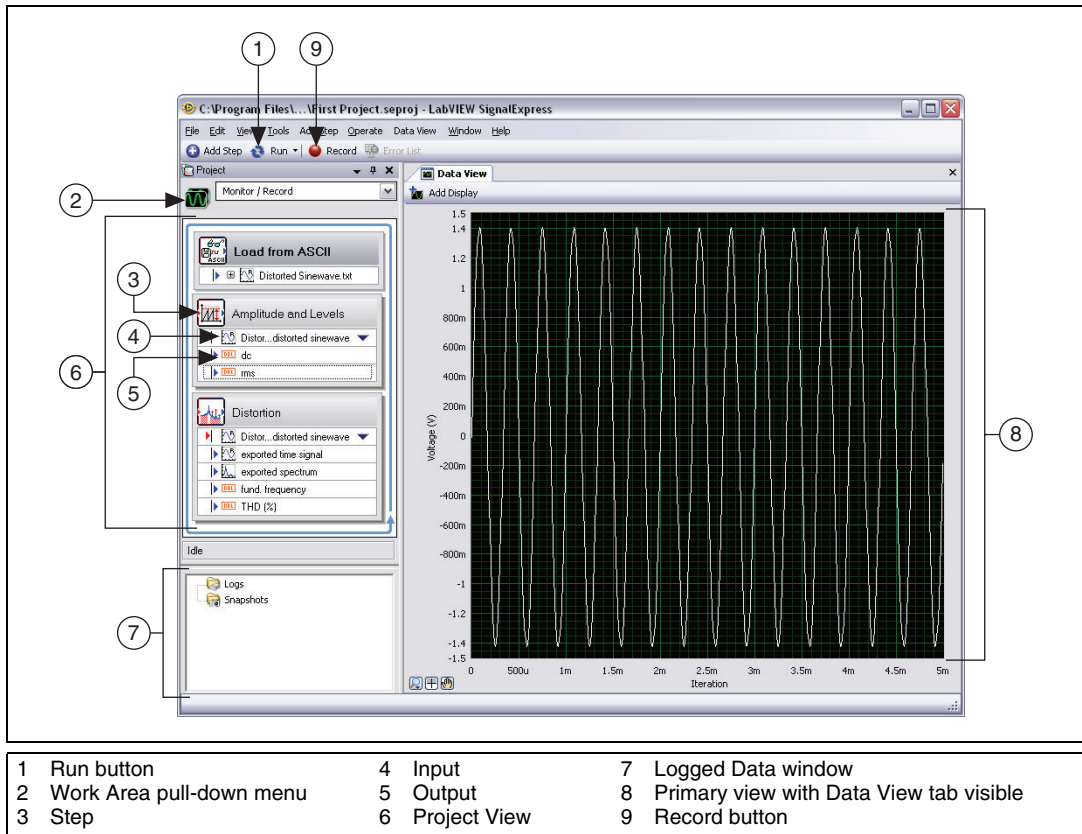

Figure 2-1. First Project.seproj
4. Examine the window that appears, as shown in Figure 2-1 with the context help closed, to learn about different components of LabVIEW SignalExpress.